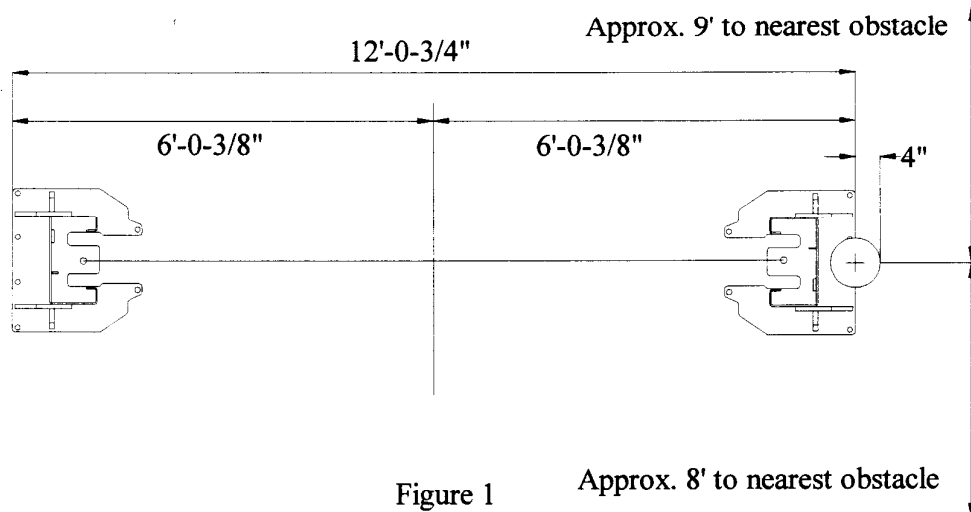

Figure 1
3. Refer to Figure 1 to determine the location for the lift. The mainside leg, which has a mount for the power unit welded on the backside of the leg, can go on either side. Stand and position the leg on the floor.